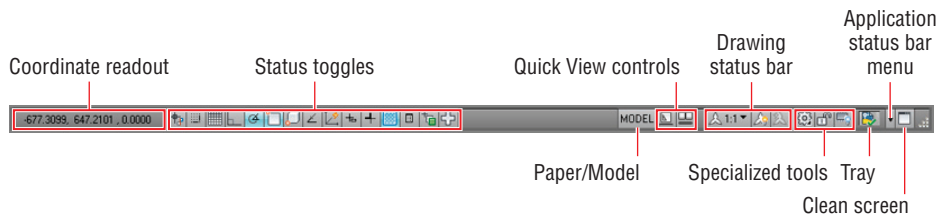

FIGURE 1.13 Application, drawing status bars, and the tray
10. The application status bar contains a coordinate readout on the left, a number of status toggle buttons, and various items, as shown in Figure 1.13. Toggle off all the status bar toggles so that none of their icons are highlighted in blue. Click the application status bar menu, and deselect Clean Screen; its button disappears. You can control which buttons appear using this menu.